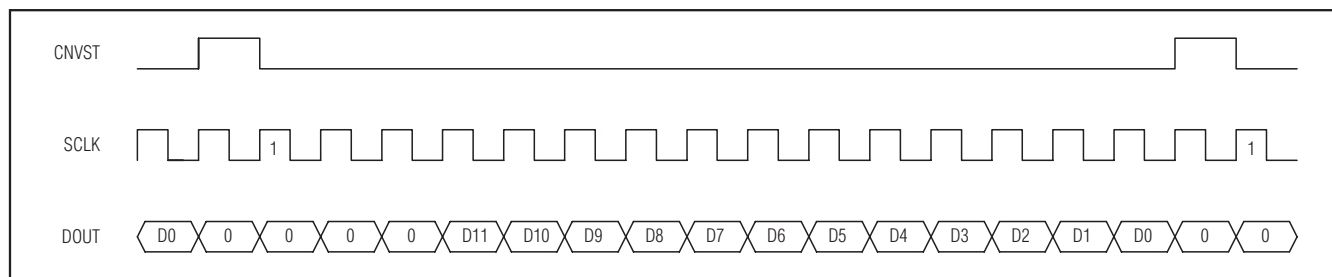
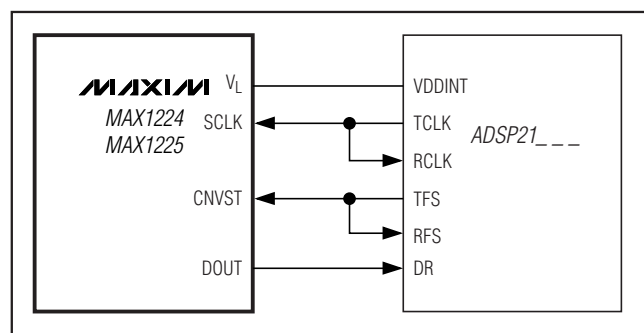

Figure 17. DSP Interface—Continuous Conversion
Figure 19. Interfacing to the ADSP21_ _ _
The MAX1224/MAX1225 can also be connected to the TMS320C54_ by using the data transmit (DX) pin to drive CNVST and the CLKX generated internally to drive SCLK. A pullup resistor is required on the CNVST signal to keep it high when DX goes high impedance and 0001hex should be written to the DXR continuously for continuous conversions. The power-down modes may be entered by writing 00FFhex to the DXR (see Figures 17 and 18).
The MAX1224/MAX1225 can be directly connected to the ADSP21_ _ _ family of DSPs from Analog Devices, Inc. Figure 19 shows the direct connection of the MAX1224/MAX1225 to the ADSP21_ _ _. There are two modes of operation that can be programmed to interface with the MAX1224/MAX1225. For continuous conversions, idle CNVST low and pulse it high for one clock cycle during the LSB of the previous transmitted word. The ADSP21_ _ _ STCTL and SRCTL registers should be configured for early framing (LAFR = 0) and for an active-high frame (LTFS = 0, LRFS = 0) signal. In this mode, the data-independent frame-sync bit (DITFS = 1) can be selected to eliminate the need for writing to the transmit-data register more than once. For single conversions, idle CNVST high and pulse it low for the entire conversion. The ADSP21_ _ _ STCTL and SRCTL registers should be configured for late framing (LAFR = 1) and for an active-low frame (LTFS = 1, LRFS = 1) signal. This is also the best way to enter the power-down modes by setting the word length to 8 bits (SLEN = 1001). Connect the V_L pin to the ADSP21_ _ _ supply voltage when the MAX1224/MAX1225 are operating with a supply voltage higher than the DSP supply voltage (see Figures 17 and 18).